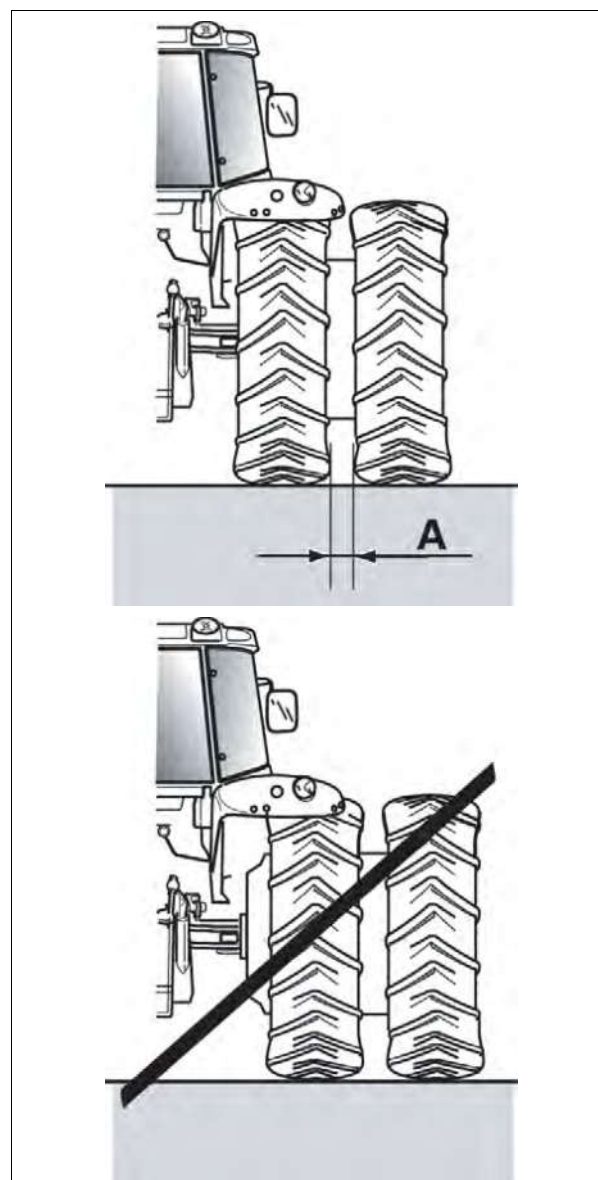

Fig. 9.
- Set the inner wheels to minimum track (fig. 9).